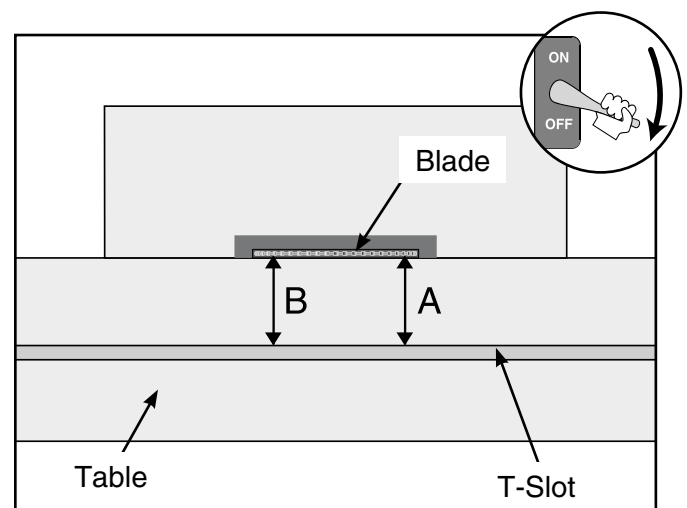

Figure 8. Measuring gap between the table and the blade.
4. Make a mark near the edge of the blade at position A (**Figure 8**) using a felt tip pen. This mark will allow you to take your measurements from the exact same place on the blade.
5. Using an adjustable square or a dial indicator, measure the distance (A) between the T-slot and the front of the blade as shown in **Figure 8**.